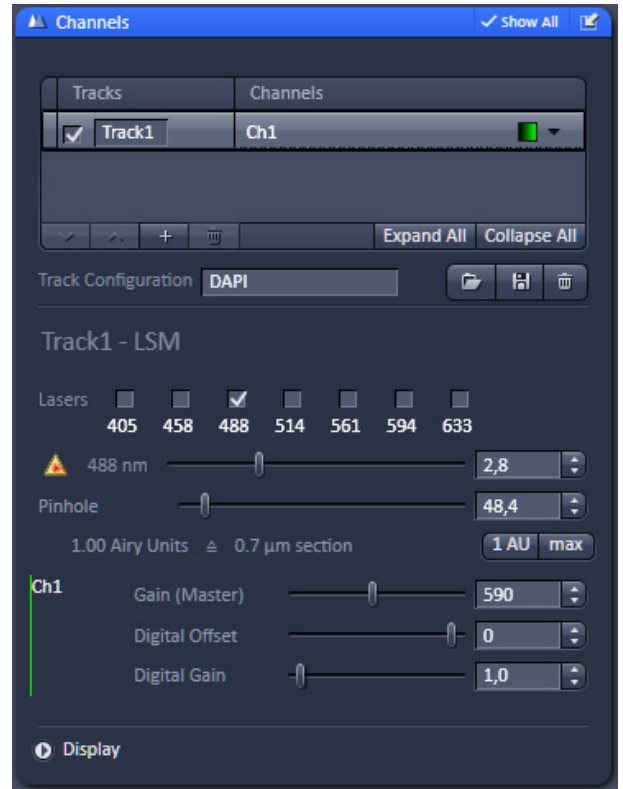

Fig. 556 Channels tool
- On the **Channels** tool in the LSM **Acquisition Parameter** tool group select the pinhole diameter so as to have the best possible image contrast (see Fig. 556).